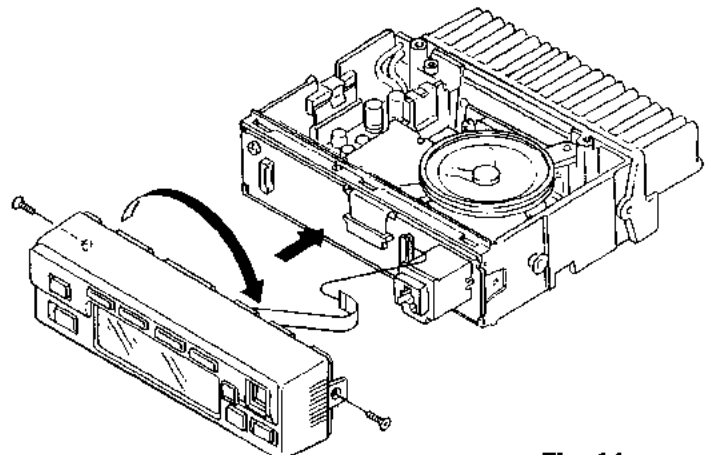

Fig. 14
5. Turn the panel through 180 degrees and mount it on the transceiver. Refit the two halves of the case to complete installation. (Fig. 14)